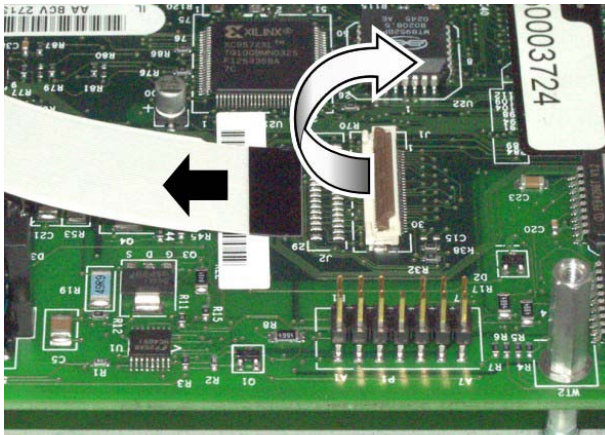

Figure 48: Analog Main Board Ribbon Cable
3. Remove the ribbon cable by flipping up the clip on the connectors at each end of the cable (see Figure 48).